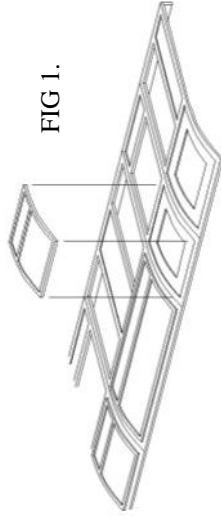

FIG 1.
3. Now remove the lower panels, clean the edges and create the curved profile as above before soldering them into the etched recesses in the coach sides. (Figure 1)